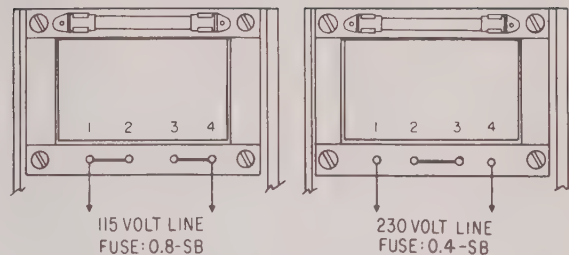

FIG. 2-2 CONVERSION TO 230V AC LINE OPERATION
2-6 This power supply is normally shipped for operation on a nominal 115V AC, single phase line. If 230V AC operation is desired, the transformer primary link connections must be changed as shown in Fig. 2-2 below. For either line voltage, the input connections must be made to terminals (1) and (2), on the rear barrier strip. If a three-wire line cord is used, the third wire (AC ground) must be connected to terminal (3).